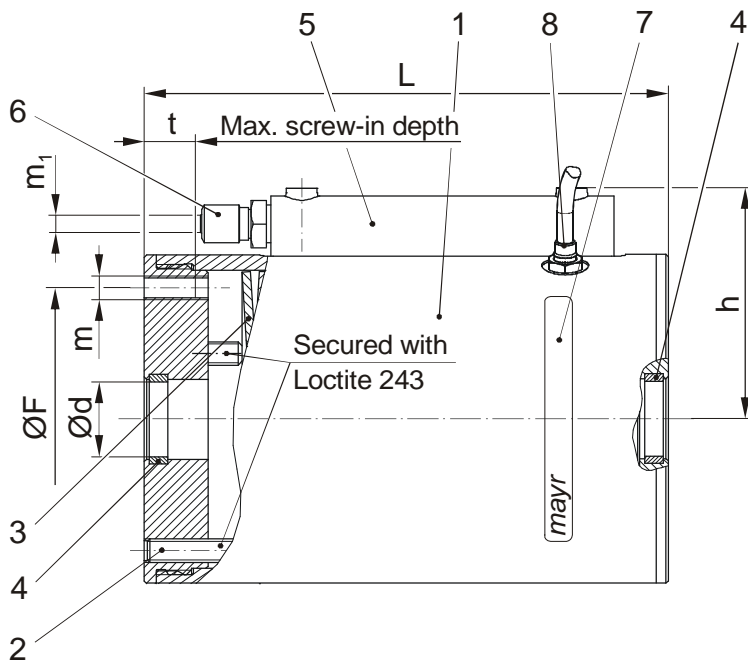

Fig. 1
Installation (Figs. 1 and 2)
- 1) Connect the pneumatic hose with $\varnothing m_1$ (Fig. 1) to the compressed air connection and pressurize the brake with operating pressure, see Table 1 (release brake).
The brake is attached using 3x M5 (for size 2) or 3x M6 (for size 4) or 3x M8 (for size 6) screws, strength 8.8 (not included in delivery) (Fig. 1) ($\varnothing F$ or thread m).
- b) Maximum screw-in depth $t = 13,5 \text{ mm}$ (for sizes 2 and 6) or $12,5 \text{ mm}$ (for size 4) (see Table 2 and Fig. 1)
Release Monitoring (8) Figs. 1 + 4 (Type 381.001.0)